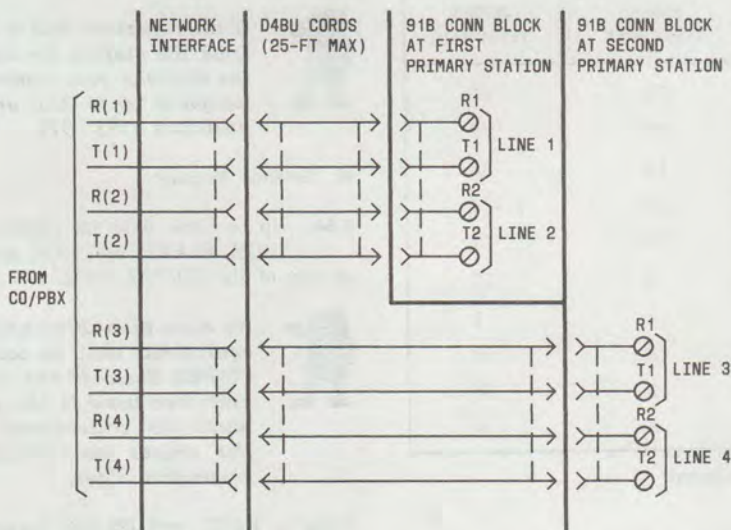

Fig. 46—CO/PBX Line Connections Using 91B Connecting Block
3.67 **Common CO/PBX Lines**—Connect the incoming common CO/PBX lines 1 and 2 to the 91B connecting block associated with the first primary station using a D4BU cord (25-foot maximum) between the network interface and the modular jack on the 91B (Fig. 46). Connect lines 3 and 4 to the 91B block associated with the second primary station in the same manner.